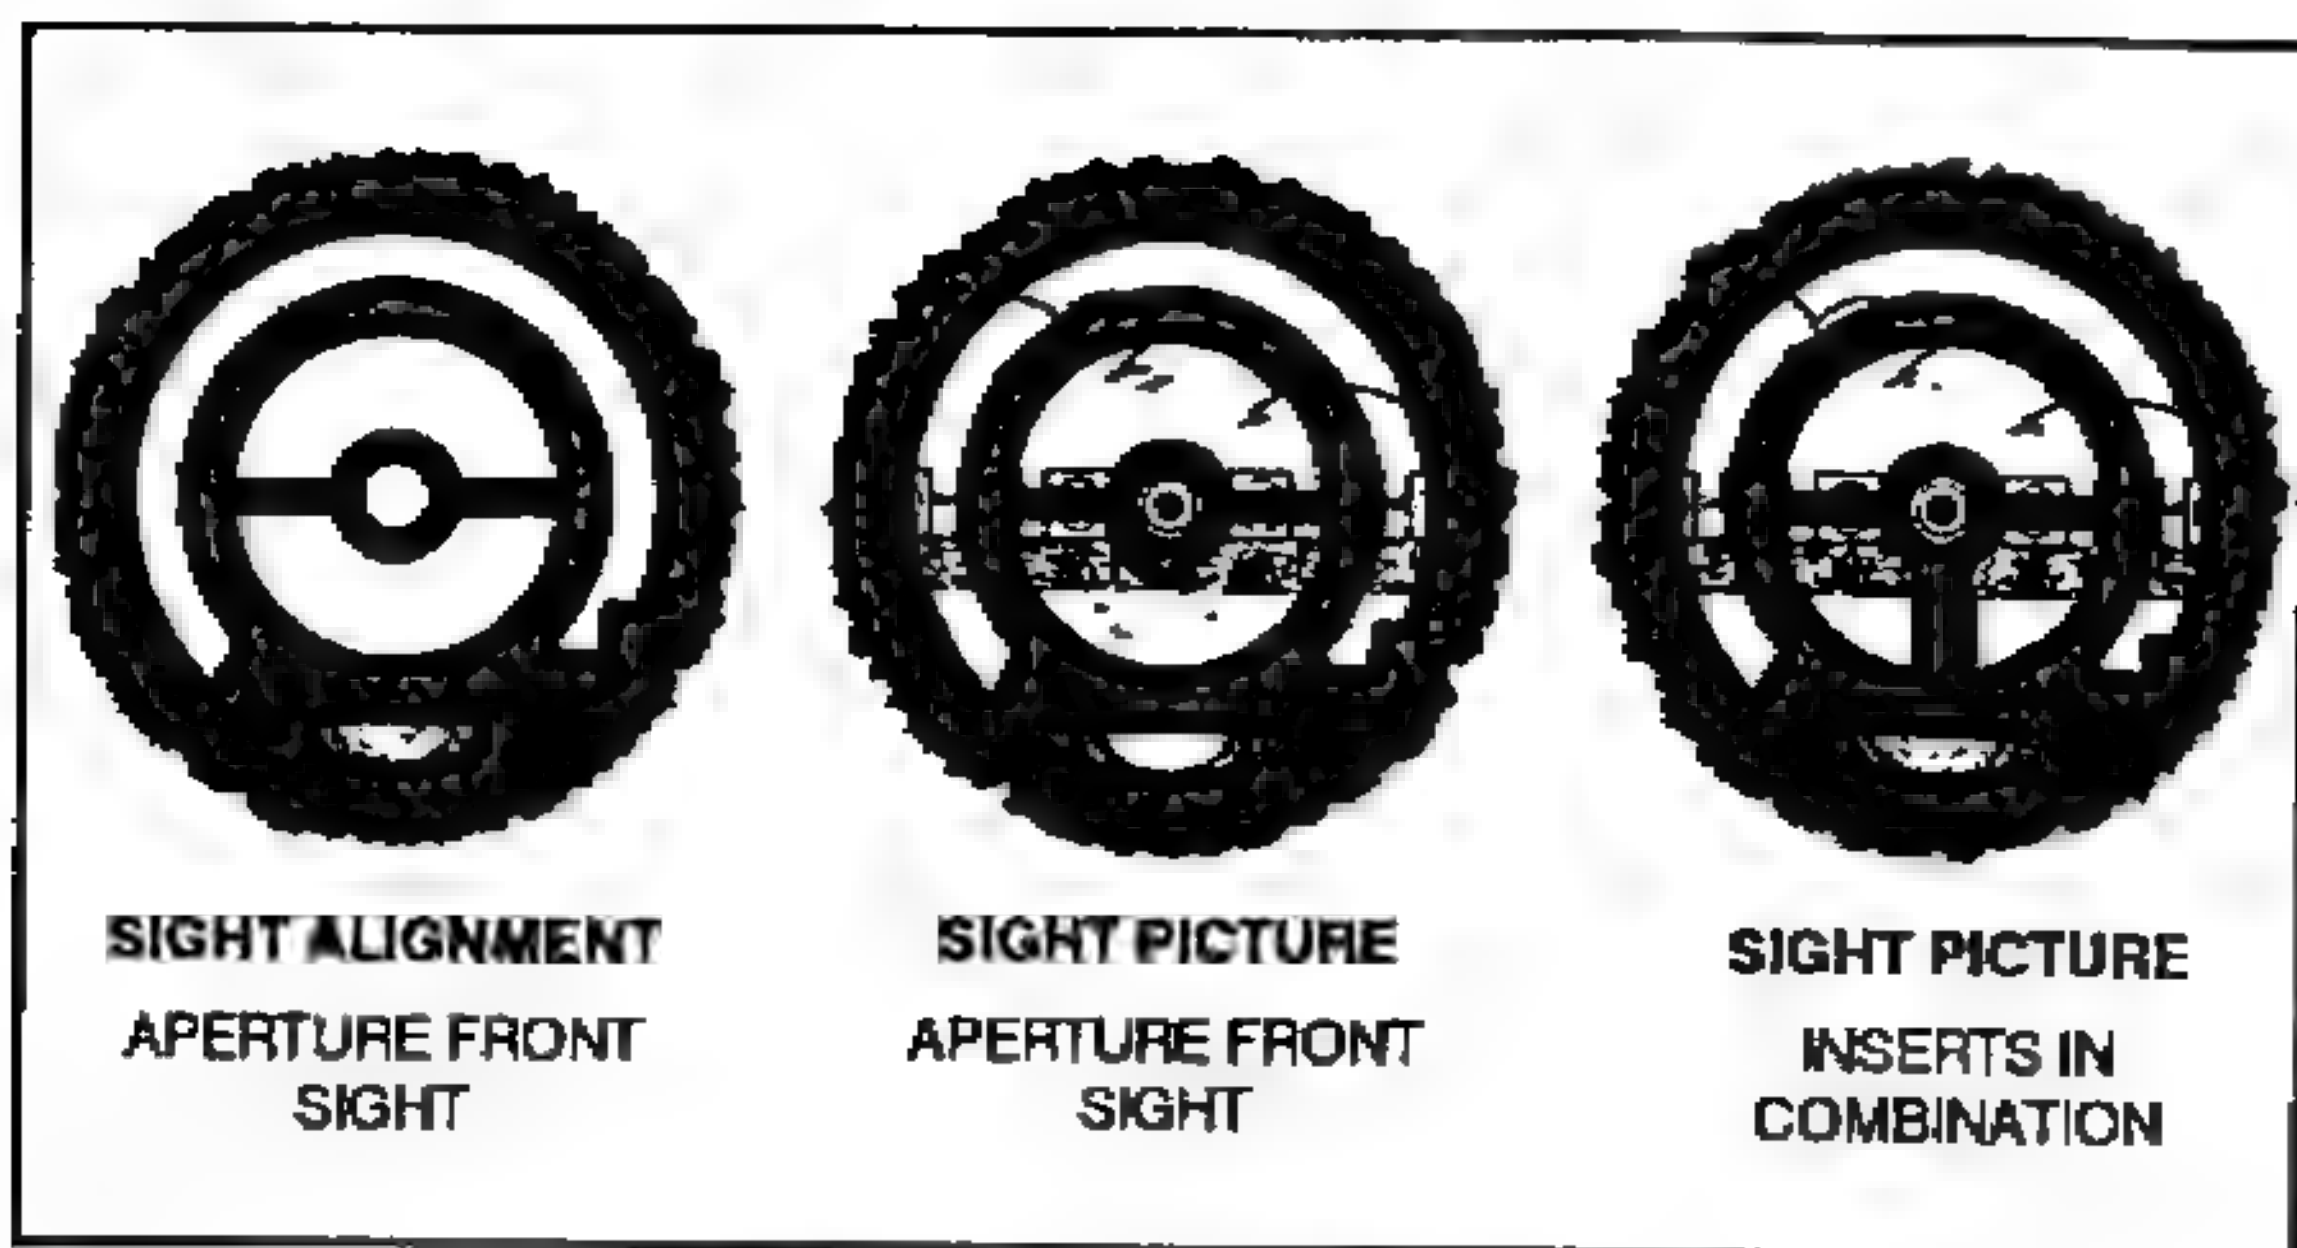

Figure 2-23. Aperture Insert.
(2) The aperture insert may be either skeleton or translucent plastic (Figure 2-23, page 2-30). The skeleton aperture is the most widely used. The translucent plastic aperture is preferred by some shooters and is available in clear plastic. Both apertures are available in various sizes. A common error is selecting an aperture that is too small. Select an aperture that appears to be at least twice the diameter of the bull's-eye. An aperture selected under one light condition may, under a different light, form a halo around the bull or make the bull appear indistinct or oblong. The aperture selected should reveal a wide line of white around the bull and allow the bull to stand out in clear definition against this background.